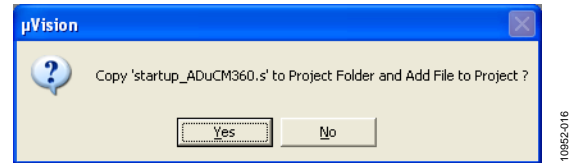

Figure 16. μ Vision Startup Question
4. Select **No** to the question that appears (see Figure 16). This indicates you are not automatically including the start-up file **startup_ADuCM360.s** to your project.